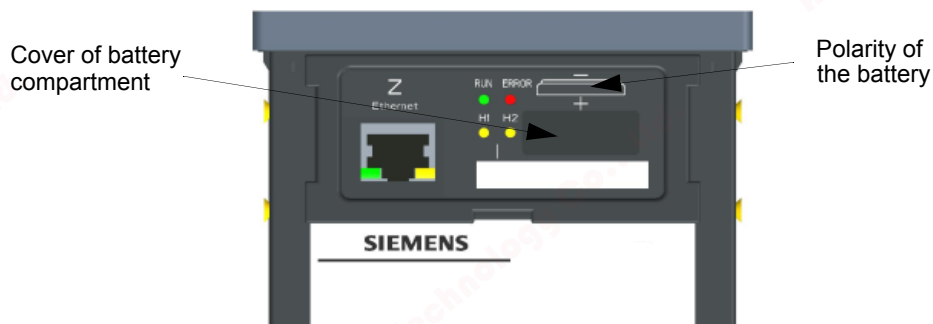

Figure 5-1 Top side of the SENTRON PAC5100/5200
- ✧ Insert the battery into the battery compartment with the polarity imprinted on the top side of the device (see Figure 5-1).